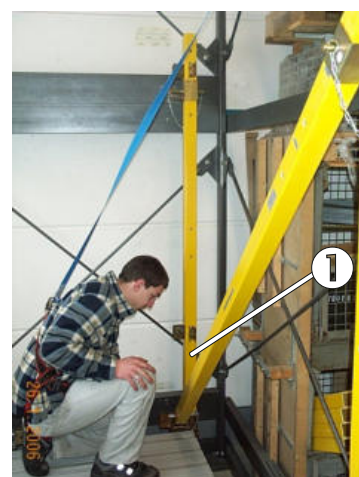
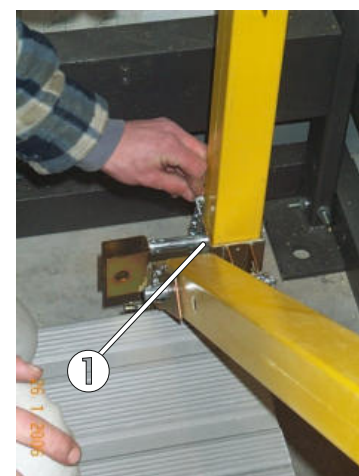

Fig. 45: Inserting the rear vertical rail stanchion
Fig. 46: Pin locking device for the rear vertical rail stanchion
The next part of the erection process is carried out at the rear of the assembly platform. First, the rear vertical rail stanchions must be placed into the fastening bolts and secured using a short locking pin and a safety pin (fig. 45/pos. 1). Note that the short locking pin is inserted from the rear towards the centre of the platform (fig. 46/pos. 1).